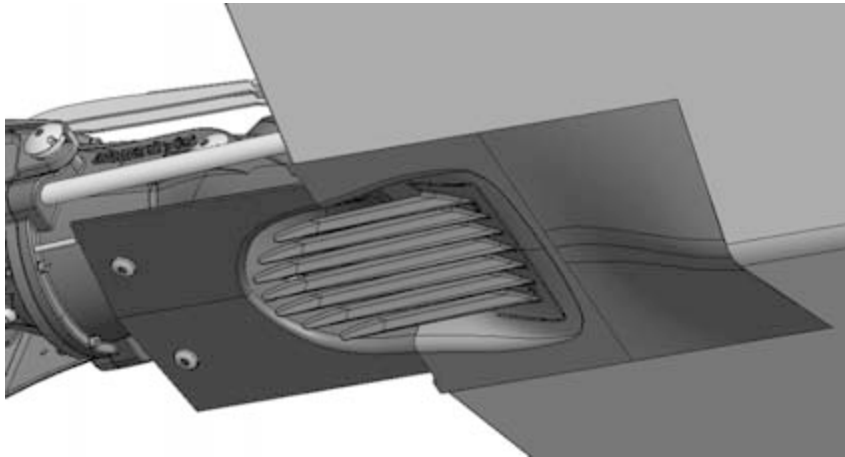

Figure 38. Checking the grass rake for blockages
2. Check the grass rake (Figure 38).